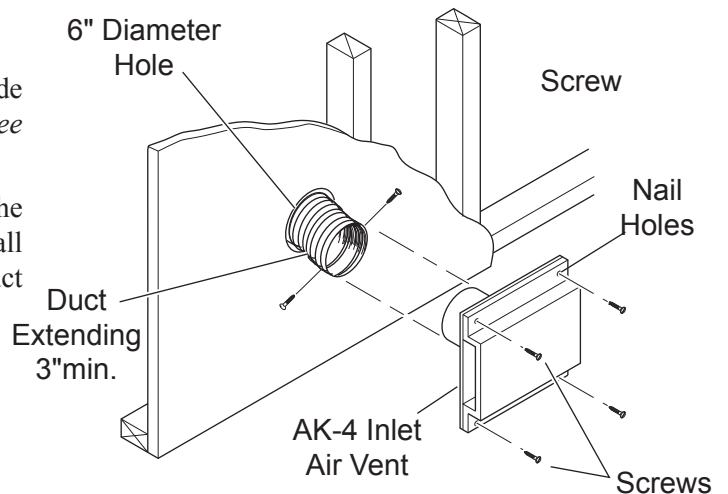

Figure 22 - Combustion Air Assembly for Model No. AK-4
5. Cut a 6-inch diameter opening for model AK-4 in the outside wall covering where the outside vent is to be located. *See Figure 22.*